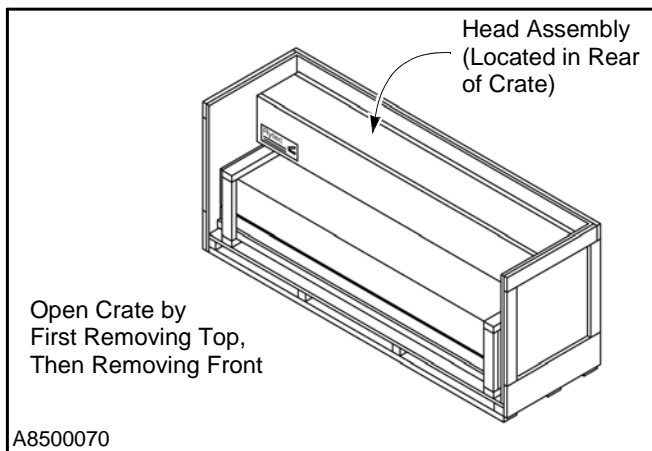

Figure 7
1. Remove the top of the crate. (See Figure 7.)